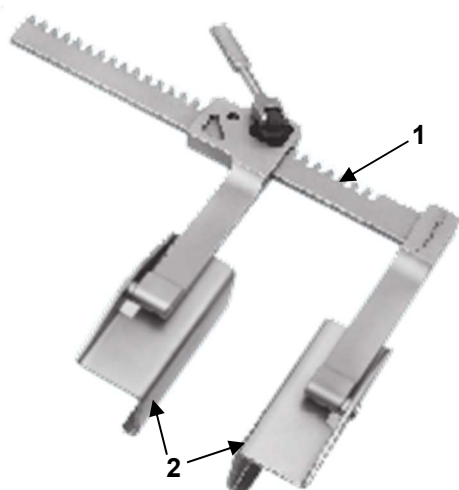

Fig. 2: Example of a total sternotomy
Figures 2 - 4 show various configuration examples for a retractor system with the MARJAN MGH retractor body (1) and Table 1 lists the corresponding blades used (2-5).